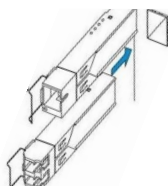

Fig. 45—SFP Transceivers Installation
Step 1. Insert an SFP transceiver into a slot. SFP transceivers are set as shown in Figure 45.